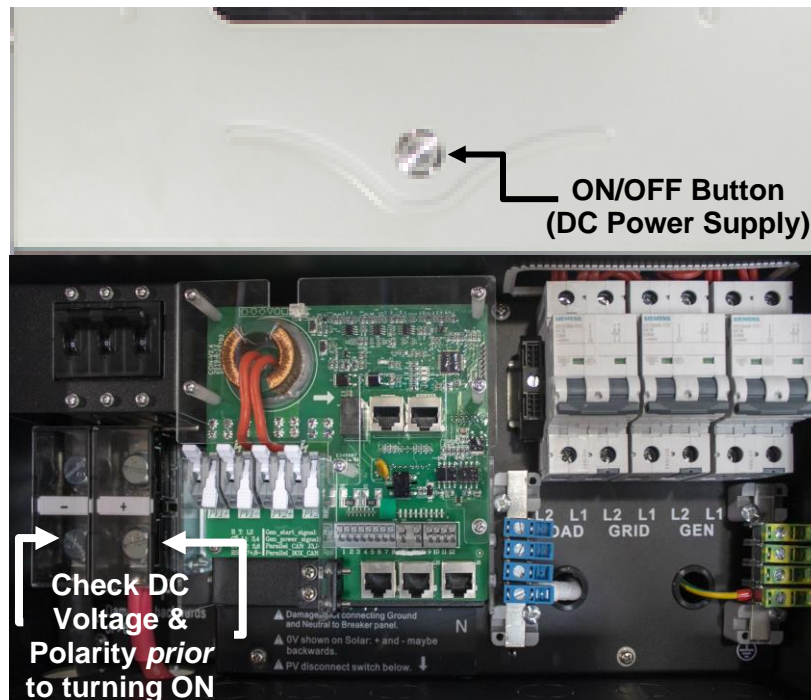

Figure 18.0 – Inverter & DC Power Supply ON/OFF Button
1. Measure the voltage and check polarity at all battery connection points. Measure the entire PHI battery bank's voltage and polarity on the Sol-Ark's DC Positive and DC Negative connection points, outlined in Figure 18.0 below.